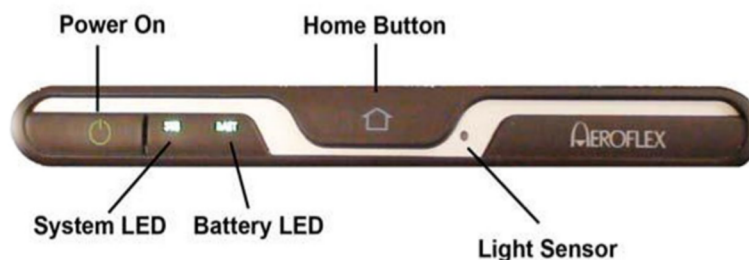

Figure 1-1 Power On Button
1. Press the **Power On** button on the front of the ALT-8000 to power on the test set. See Fig. 1-1.